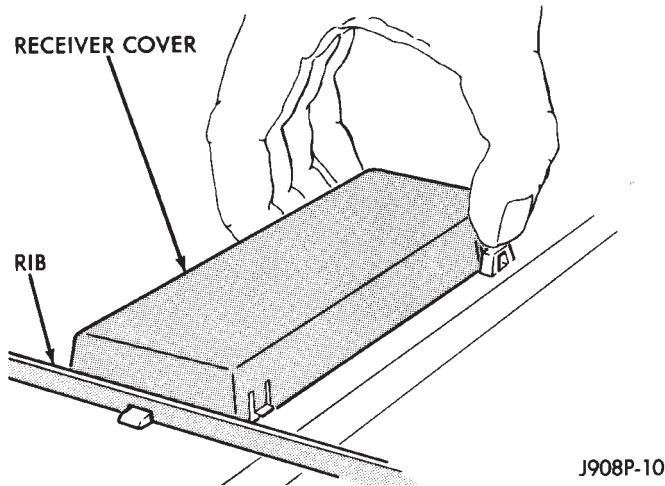

Fig. 9 Keyless Entry Receiver Cover Removal/Installation
(6) Pinch forward area of receiver cover and release clips. Slide cover out from under rib (Fig. 9).